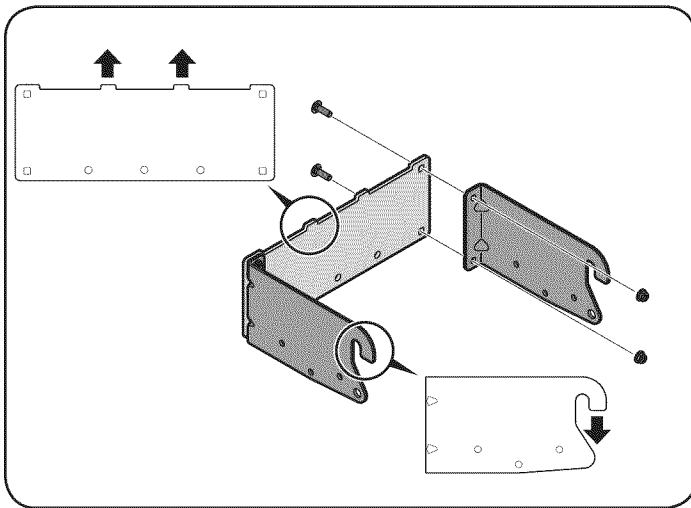

Figure 1
1. Attach the two hitch side brackets to the universal rear attachment bracket using the four hex bolts and flange lock nuts packed in with the brackets. With the hooks on the hitch side brackets pointing down, the tabs on the hitch plates should be pointing upwards. See Fig. 1.